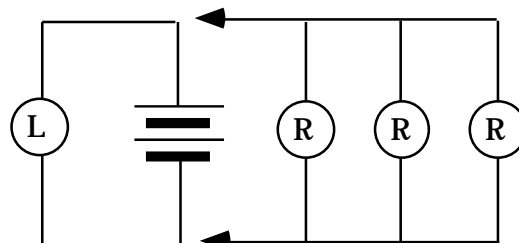

Figure 5.17c
2. Predict what would happen if you were to repeat the experiment using a group of 3 parallel bulbs as indicated in Figure 5.17c, instead of using a single round bulb.